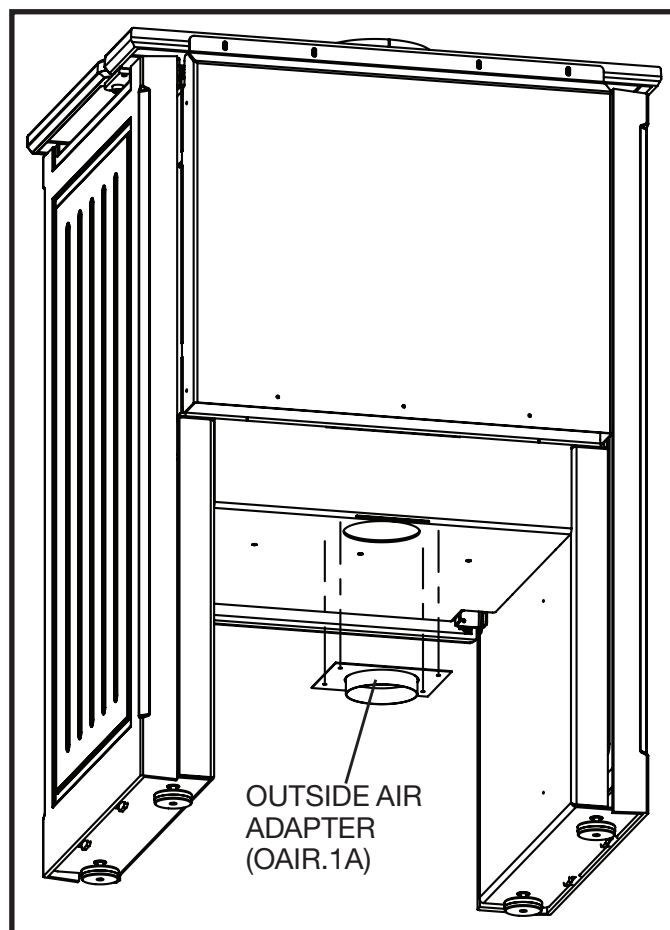

Figure 15: Newcastle 2.5 outside air adapter.
- Outside air supply must be used for Mobile Home installations. See Figure 15 on page 25.